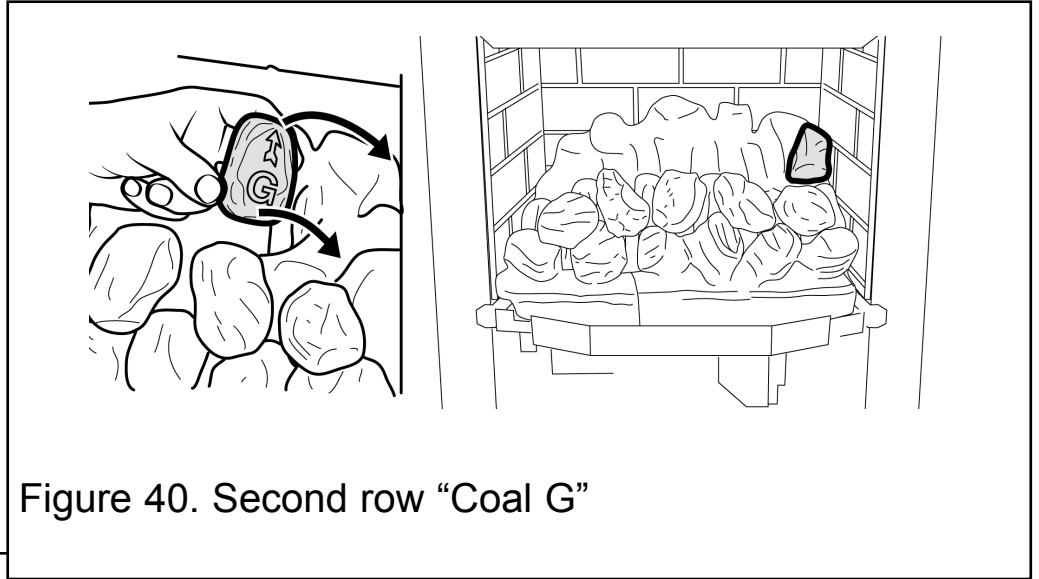

Figure 40. Second row "Coal G"
**16.** Hold coal 'G' upright with the arrow pointing to the top. Locate coal 'G' as shown in figure 40.